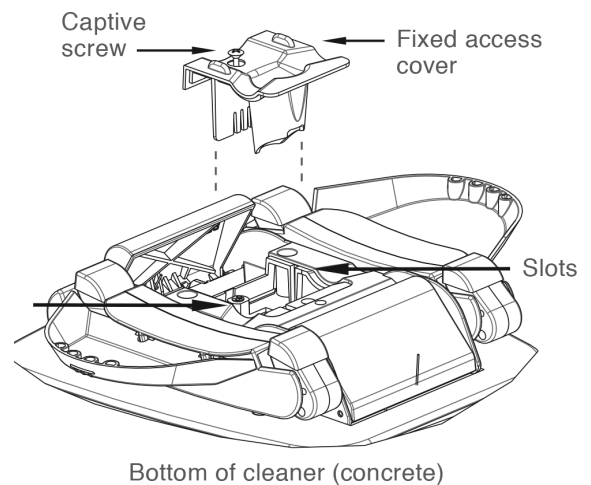

Fig.10
5. Locate and loosen the captive screw behind the throat in the center of the bottom (see Figs. 10 & 11).
6. Lift fixed access cover (see Figs. 10 & 11).
9. Reinstall the fixed access cover by lining it up with the two slots as shown in Figs. 10 & 11.
2. Locate and loosen the captive screw behind the throat in the center of the bottom (Figs. 10,11,12, on Pg 6).
4. Remove four “A” screws (see Fig. 10, Pg 6).
5. Lift the lower body assembly off the StarzTruck automatic pool cleaner (see Fig. 10, Pg 6).